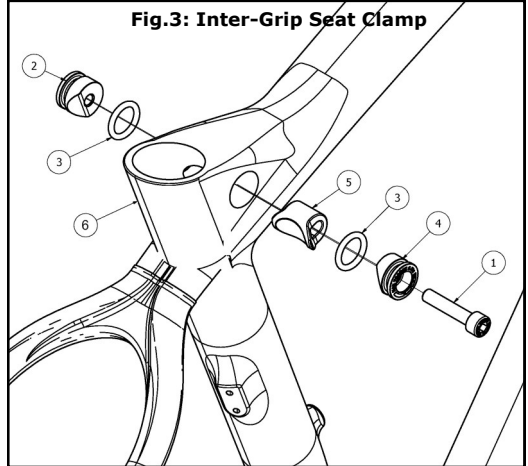

Fig.3: Inter-Grip Seat Clamp
Figure 3. To adjust the seat height and/or direction, using the 5mm Allen key, undo the M6 Capscrew (1) just enough to allow the Seat Post to slide freely up and down. Set the height and/or direction to the desired level. Re-tighten the M6 Capscrew (1) with the 5mm Allen Key in the Torque Wrench to the 6Nm limit, as marked on the Plain Sleeve (4).
Reference figure 3 on page 12.